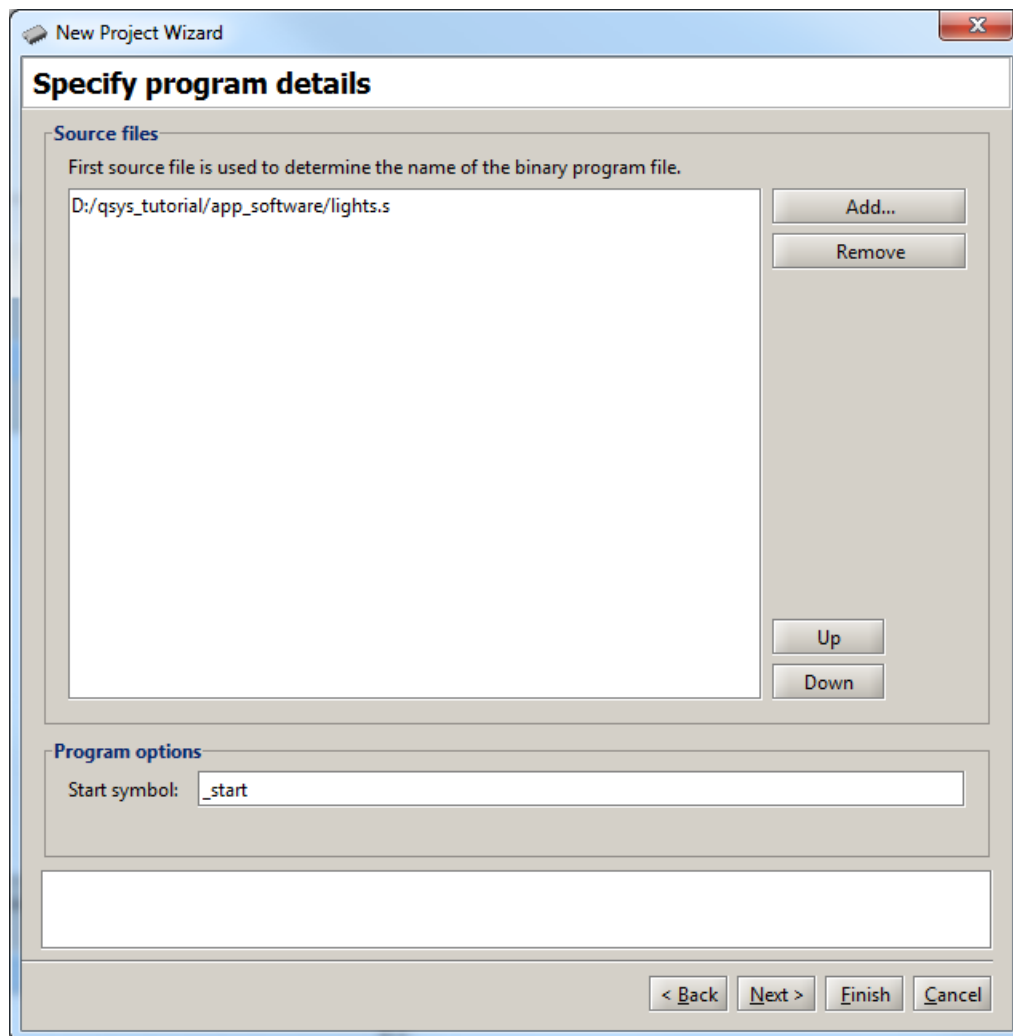

Figure 30. Specify the application program to use.
5. If you wish to use a Nios II assembly-language application program, select **Assembly Program** as the program type from the drop-down menu. If you wish to use a C-language program, select **C Program**. Click **Next**, leading to Figure 30.
6. Click **Add...** to display a file selection window and choose the *lights.s* file, or *lights.c* for a C program, and click **Select**. We placed the application-software files in the directory *qsys\_tutorial\app\_software*. Upon returning to the window in Figure 30, click **Next**.